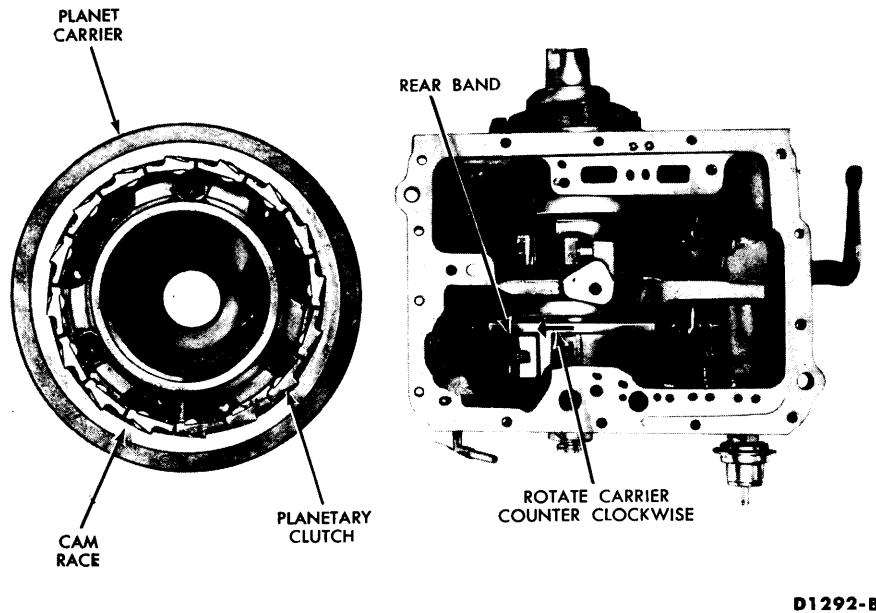

FIG. 49—Planetary Clutch Installation in Carrier—Using Chamfered Center Support
4. Install the planetary clutch in the carrier (Fig. 49).
6. While applying forward pressure on the planet carrier, rotate it counterclockwise as viewed from the rear (Fig. 49). This will cause the clutch rollers to roll toward the large opening end of the cams in the race, compressing the springs slightly, so that the rollers will ride up the chamfer on the planetary support and onto the inner race.